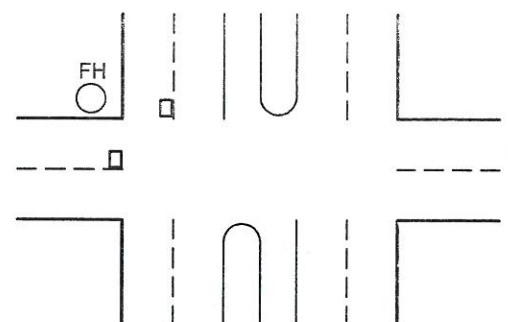

FIGURE 4
B. STREETS WITH LEFT TURN LANE AT THE INTERSECTION: MARKERS SHOULD BE PLACED SIX INCHES FROM THE EDGE OF THE PAINTED WHITE LINE ON THE SIDE NEAREST THE HYDRANT (SEE FIGURE 4)
(FIGURE 4)